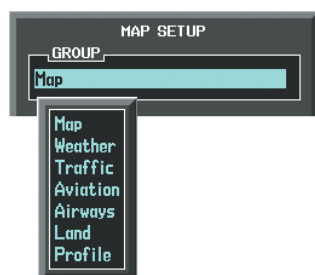

Figure 6-110 Navigation Map Page Setup Menu
- 4) Turn the small **FMS** Knob to select the 'Map' Group and press the **ENT** Key (Figure 6-110).